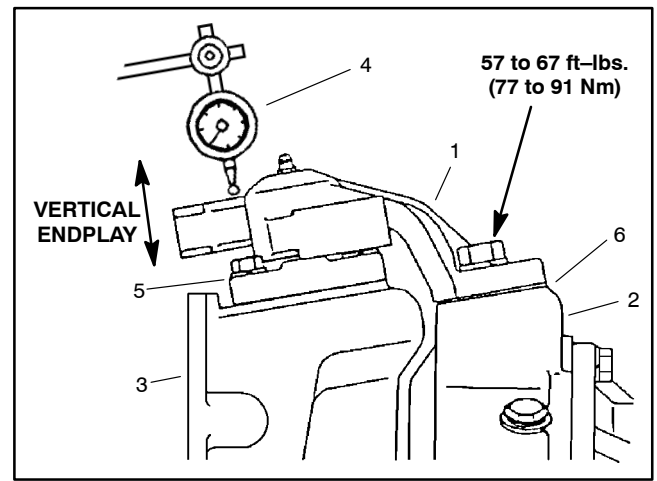

Figure 10
C. Use dial indicator to measure vertical endplay of axle case (Fig. 10).